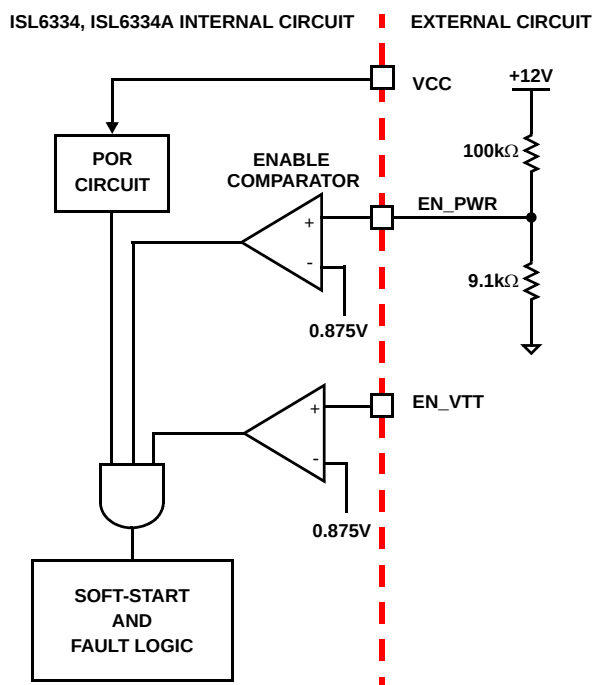

FIGURE 8. POWER SEQUENCING USING THRESHOLD-SENSITIVE ENABLE (EN) FUNCTION
2. The ISL6334, ISL6334A features an enable input ( $EN\_PWR$ ) for power sequencing between the controller bias voltage and another voltage rail. The enable comparator holds the ISL6334, ISL6334A in shutdown until the voltage at  $EN\_PWR$  rises above 0.875V. The enable comparator has about 130mV of hysteresis to prevent bounce. It is important that the driver reach their POR level before the ISL6334, ISL6334A becomes enabled. The schematic in Figure 8 demonstrates sequencing the ISL6334, ISL6334A with the ISL66xx family of Intersil MOSFET drivers, which require 12V bias.